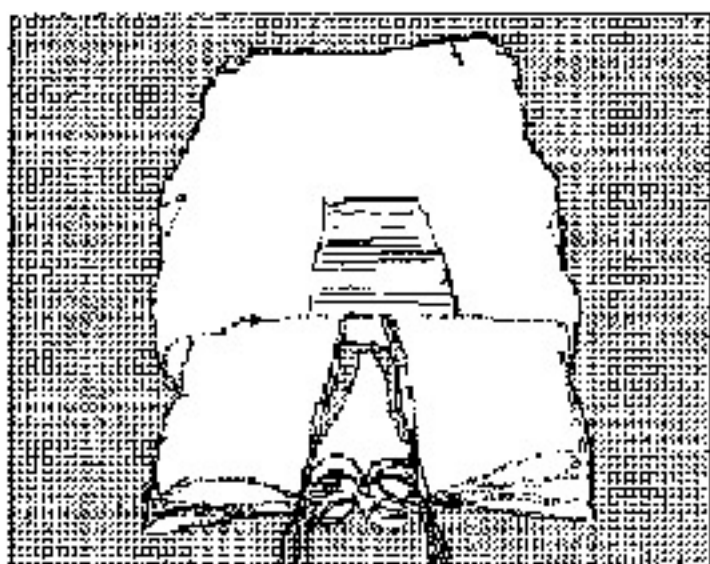

Figure 6
9. STOW THE SLIDER ACCORDING TO THE MANUFACTURER'S INSTRUCTIONS. (FIG. 6)